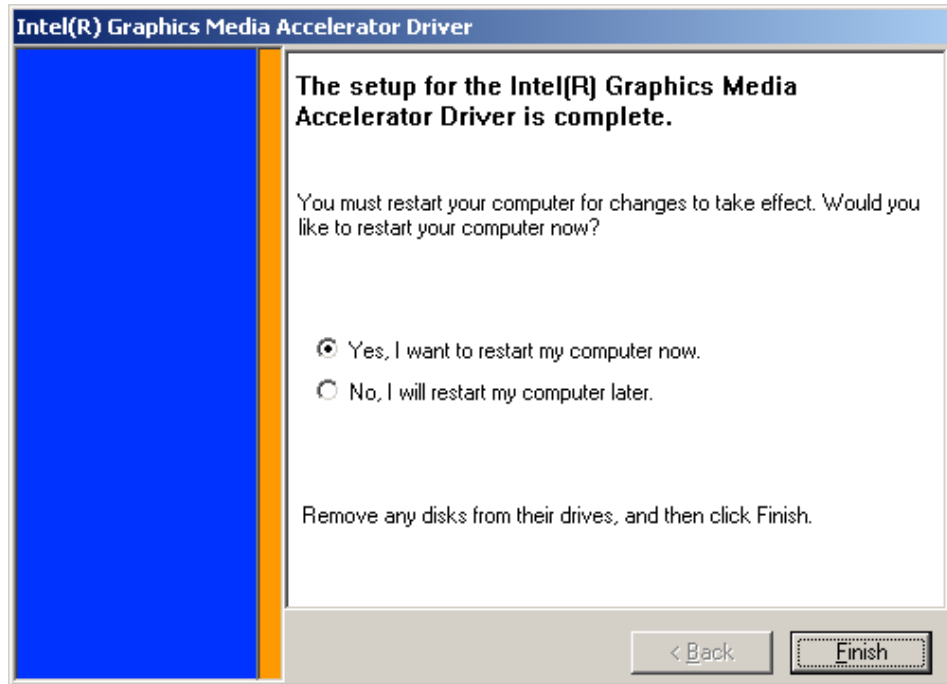

Figure 6-10: Intel® Graphics Media Accelerator Installation Complete
Step 5: After the driver installation process is complete, a confirmation screen appears (Figure 6-10).